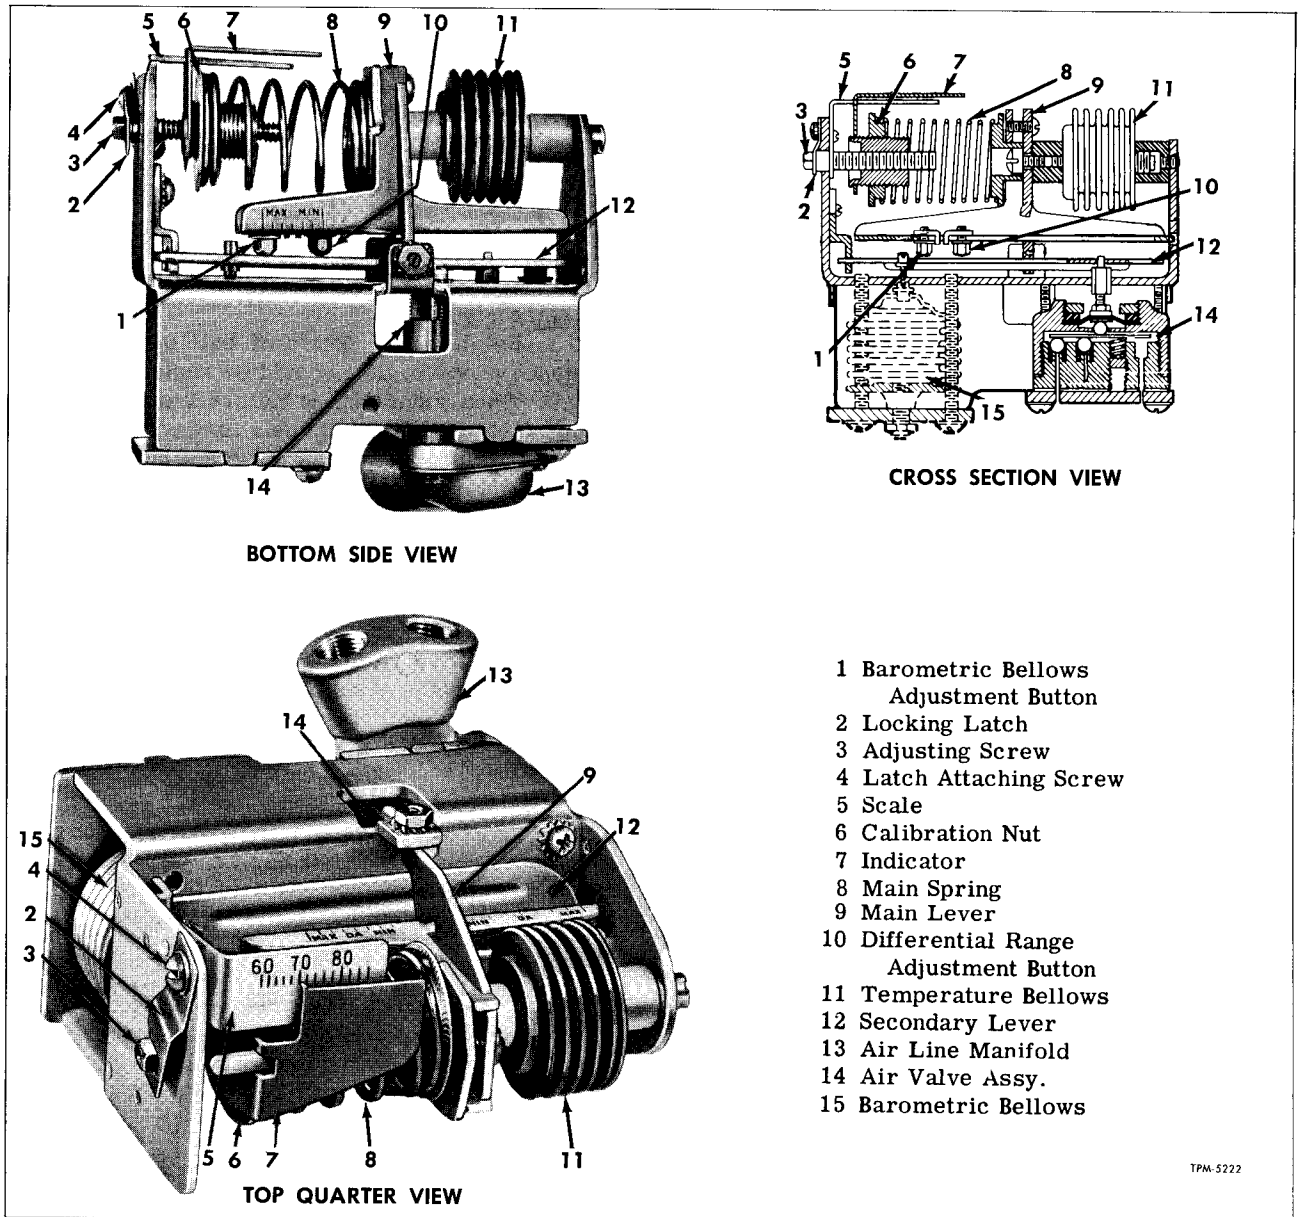
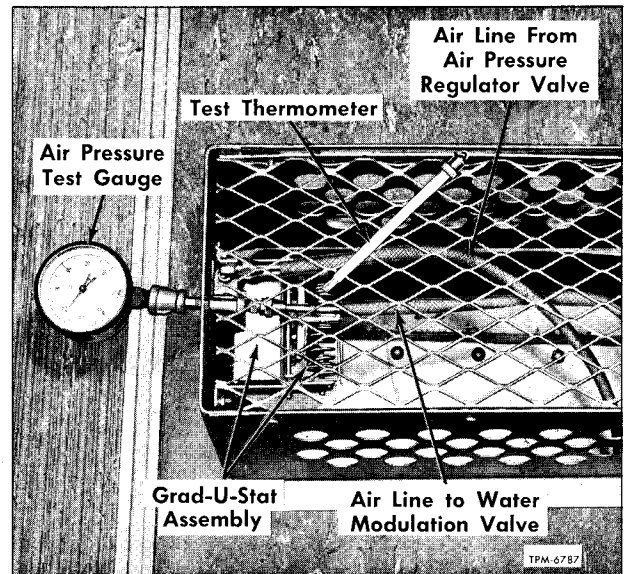

Figure 15—Heating System Grad-U-Stat Assembly
Figure 16—Grad-U-Stat With Test Thermometer and Air Pressure Gauge Installed
Grad-U-Stat (fig. 15), which is a thermostatically operated air control valve, is installed in recirculated air inlet located under seat, midway on right side of coach (fig. 16) on transit models and under the raised floor on suburban models. Two air lines connect to the unit. Main air line, connected to front port, is the main feed line from air pressure regulating valve, which limits the air pressure to 17 lbs; rear line carries air pressure
The differential range adjustment button (10, fig. 15) on the main lever, is set at the factory to provide a 6°F. differential between fully closed and fully opened position. This setting has been found satisfactory for most operations and it is recommended that setting not be changed.
Grad-U-Stat is also altitude compensated, providing uniform temperature control when coach is operating at various elevations. An auxiliary bellows (15, fig. 15), unaffected by temperature changes, opposes the effect of altitude changes on the temperature-sensing bellows by retarding action of the secondary lever.
Key numbers in text refer to figure 15.
2. Remove plug from line elbow at Grad-U-Stat, then install air pressure test gauge (fig. 16).
4. Check the air temperature at the bellows with an accurate thermometer (fig. 16).
5. Through opening in side of air inlet riser, on transit models (remove screen from seat riser in aisle on suburban models), loosen locking latch screw (4), disengage latch (2), from adjusting screw (3), then turn the adjusting screw to set the indicator at the temperature shown on the thermometer.
6. Observe pressure reading on air pressure test gauge. If reading is 8 pounds, no adjustment is required. If pressure is above 8 pounds, turn the calibration nut (6) and main spring (8) to shorten the spring until the correct reading (8 pounds) is obtained. **NOTE:** Compress spring when turning nut against increased spring compression. Release hand pressure on spring when checking readings. If pressure is below 8 pounds, turn calibration nut and main spring in opposite direction to lengthen the spring (spring compression not necessary).
7. After correct adjustment is obtained, turn adjusting screw (3) to set the indicator at desired operating temperature (75°F. is factory setting), place locking latch (2) over adjusting screw, and tighten latch screw (4).
a. Using a small open-end wrench, loosen the differential range button (10, fig. 15). Move the button to the desired position on its scale, and retighten range button. **NOTE:** To perform this operation, remove air inlet screen (on transit models).
b. Make sure differential range button is between the MAX. and MIN. markings on side of main lever (9, fig. 15). Maximum range is 10 degrees, minimum range is 3 degrees.
REMOVAL OF GRAD-U-STAT (Fig. 16)
INSTALLATION OF GRAD-U-STAT (Fig. 16)